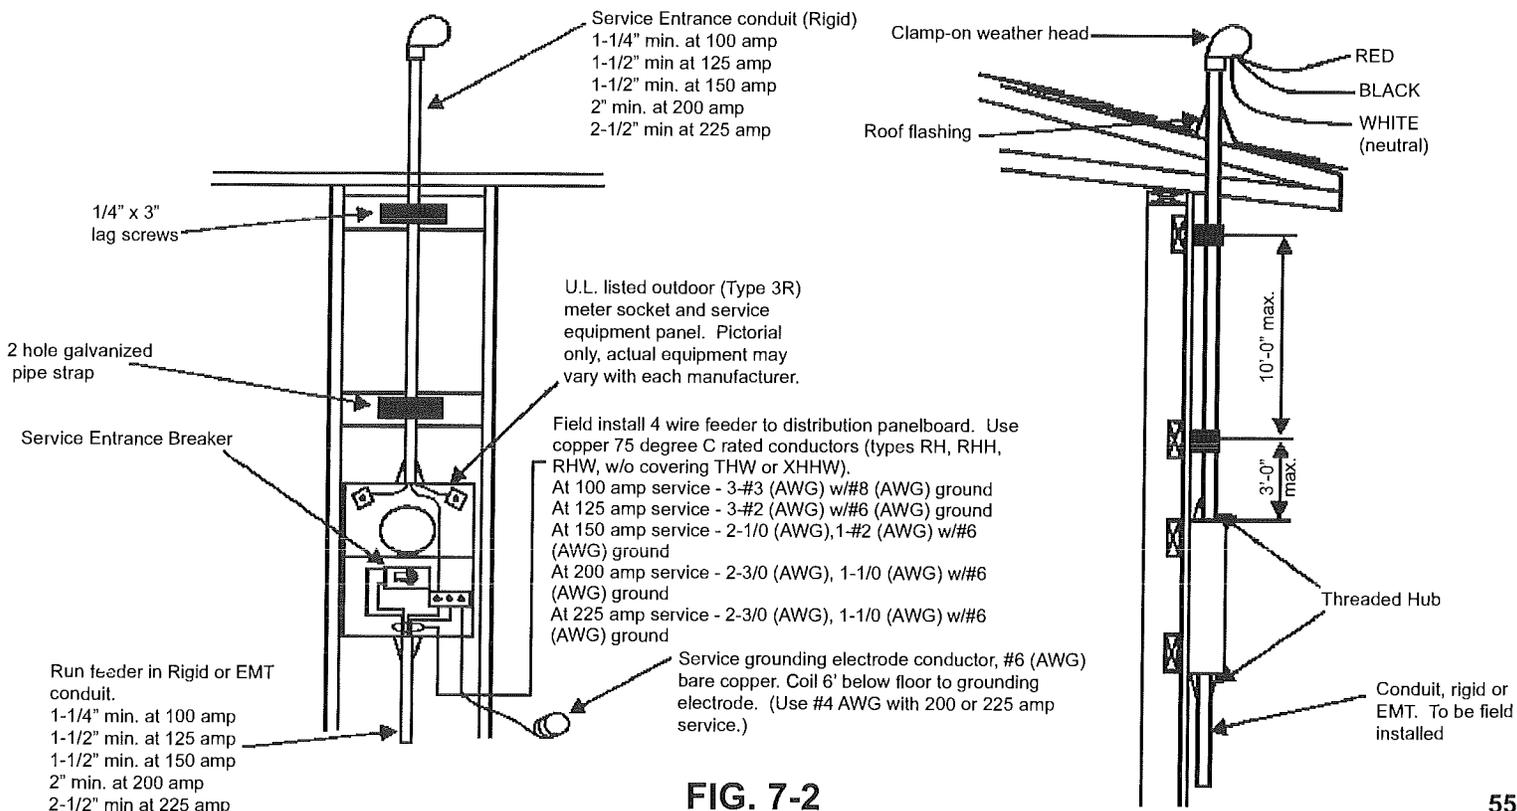

FIG. 7-2
9. See Fig. 7-2 below.
3. Install the masthead and the feeder conductors as shown in Fig. 7-2 below.